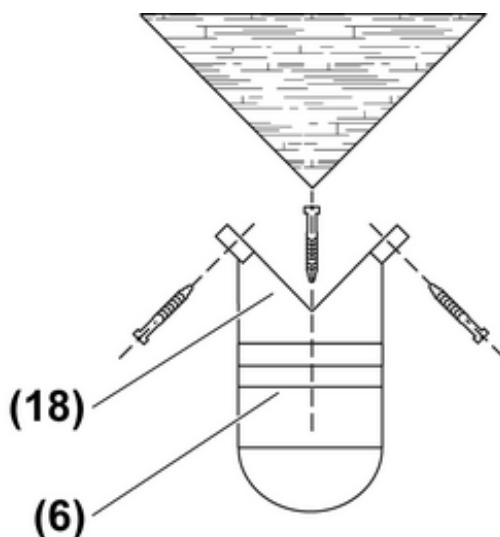

Figure 17: Installation on external corner
- For mounting on the corner of a building, a corner piece (18) is necessary (Figure 17) (see "Accessories").